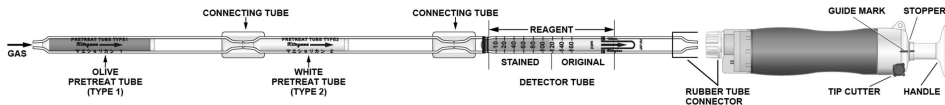

Fig.1
- ① Break both ends of the detector tube and pretreat tubes (Type 1, Type 2), and connect each end of the detector tube and pretreat tubes with connecting tube as shown in Fig.1.
- ② Insert the detector tube into the aspirating pump securely as shown in Fig. 1. (Arrow marks on the detector tube and pretreat tubes shall point to the pump.)
- ③ Align the guide marks on the shaft and stopper of the aspirating pump.
- ④ Pull the pump handle at a full stroke until it locks and wait for 2 minutes or until the completion of sampling is confirmed with the flow indicator of the pump. (See descriptions about the flow indicator in the instruction manual of the pump.)
- ⑤ On completion of sampling, read the scale at the maximum point of the stained layer.